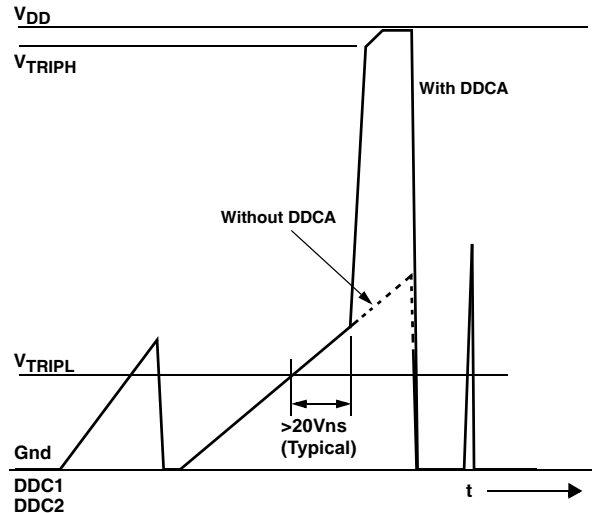

FIGURE 10. NOISE SUPPRESSION. BOOST CURRENT APPLIED WHEN INPUT SIGNAL EXCEEDS 20Vns (TYPICAL)
| NSS | Noise Spike Suppression (Note 5) (Figure 10) | | | 20 | | V-ns |
5. Measured as area under triangular waveform above V_{TRIPL} , with time as base and V_{IN} as height (See Figure 10).